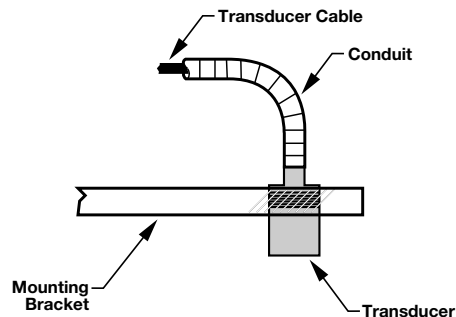

Figure 7
- Tighten the conduit to the nipple on the top of the transducer. Refer to Figure 7.